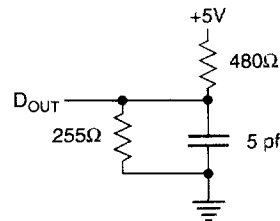

Figure 2. Output Load Equivalent
1. The parameter is tested with CL = 5 pF as shown in Figure 2. Transition is measured ±200 mV from steady state voltage.